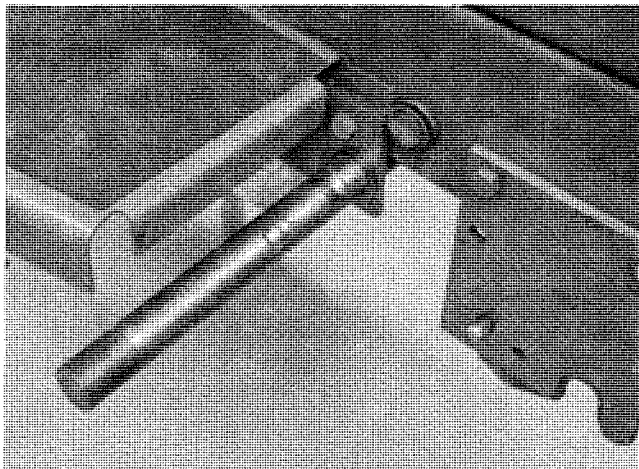

FIGURE 1
Remove the RH foot rest support bracket and in its place bolt on the pedal pivot shaft assembly, item 10 using the same bolts and nuts. See Fig. 1.